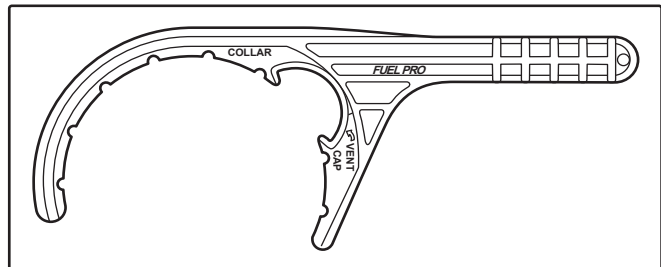
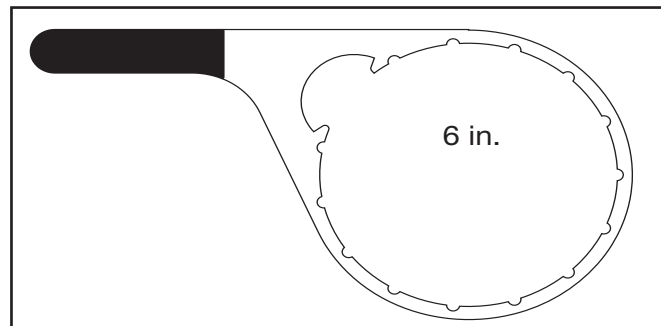

Figure 7 - Composite Collar Wrench
Figure 8 - Metal Collar Wrench
Step 3 - Using the Collar Wrench (part number 3944451 S (composite) Figure 7, 3944448 S (metal) Figure 8, or SP1076 for EXT series), remove the clear cover from the fuel processor by removing the collar. Discard the o-ring from the base of the cover. (A new o-ring seal is supplied with the new filter.) For Biodiesel applications use gasket pack 3950445 S. Gasket color is green and **MUST** be changed with every filter change. Remove the filter element from the Fuel Pro by pulling upward and twisting slightly. Be sure the sealing grommet is removed from the center stud.